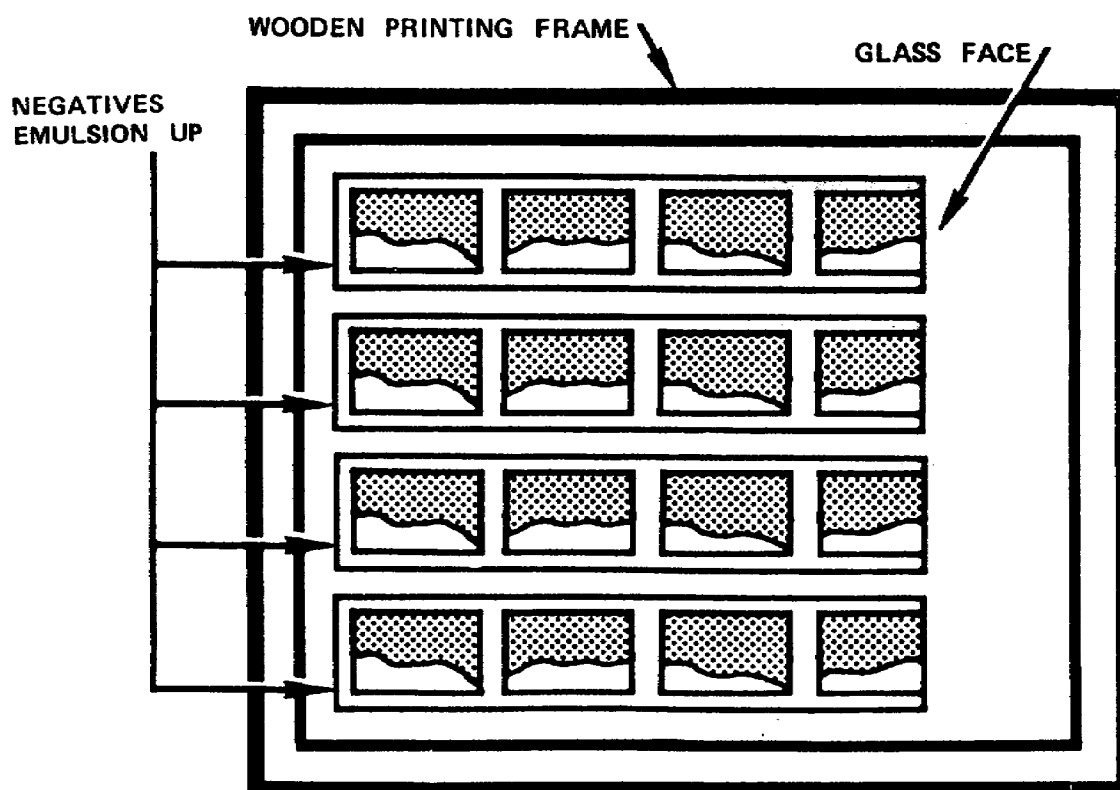

Figure 2-2. Printing frame
(1) Clean the printing area before starting other operations. Remove all dust, lint, dirt, and other foreign matter from the printing area. When possible, use a vacuum cleaner, as dusting causes the material to become airborne, and it soon settles back into the working area.
(2) Connect the projection printer to the timer. Turn the printing light on and make sure the area illuminated by the projected light is large enough to cover the entire printing frame as shown in Figure 2-2. Allow a generous coverage of light in case you misalign the printing frame.
(3) Clean the negative to be printed, making sure it is free of all dust and lint.
(4) Place the negative with the emulsion side up on the face of the printing frame's glass surface. For a professional appearance, when contacting more than one negative or strip of negatives on the same sheet of paper, be sure the subject matter is facing the same direction. With roll film there is a frame number located below each negative. When the negatives are positioned on the glass, the lowest numbered negative should be located in the upper right corner. The highest numbered negative (last frame of the roll) should be in the lower left hand corner. Since the film is placed on the glass emulsion up these numbers will appear backwards when viewed from this position. Refer to Figure 2-2 for an example of the proper placement of the negatives.